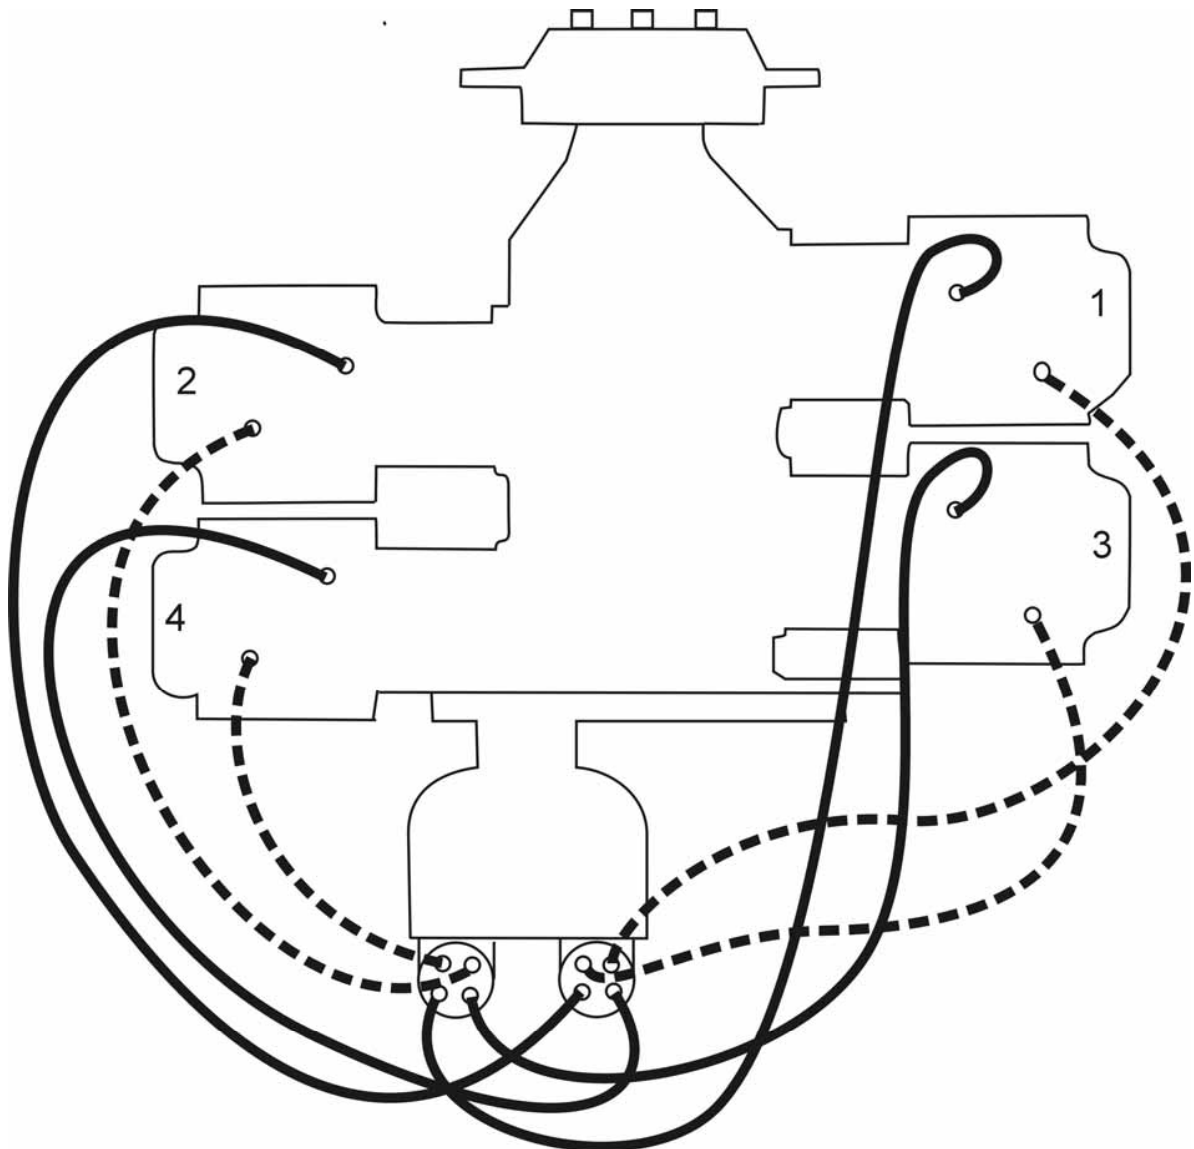

Figure 5-1. Ignition Wiring Diagram
- (7) Hold the magneto on its No. 1 firing position (tooth in window center and pointed over "R" or "L" mark on rotor) and install magneto to the engine and loosely clamp in position.
- (8) Attach red lead from the timing light to left switch adapter lead, green lead to right switch adapter lead and the black lead of the timing light to the magneto housing.
- (9) Turn the magneto in direction of rotor rotation until the red timing light comes on.
- (10) Rotate the magneto in the opposite direction until the red light just goes off indicating that the left main breaker has opened. Then evenly tighten the magneto mounting clamps.
- (11) Back engine up (counterclockwise rotation) approximately 10°, the red light should be on, then carefully "bump" crankshaft in direction of normal rotation, at the same time observing the timing light.
- (12) At the No. 1 firing position of the engine, the red light should go off indicating the left main breaker opening. The right main breaker monitored by the green light must open within $\pm 2^\circ$ engine degrees of the No. 1 firing position.
- (13) Repeat steps (9) through (11) until the condition described in step (12) is obtained.
- (14) Complete tightening of the magneto securing clamps by torquing to 150 in.-lbs.
- (15) Recheck timing once more as stated in step (12) and if satisfactory disconnect timing light. Remove adapter leads.
- (16) Reinstall plugs in timing inspection holes. Torque plugs to 12-15 in.-lbs.
- (17) Install the harness, as shown in Figure 5-1 to spark plugs and connect switch leads to proper terminal.